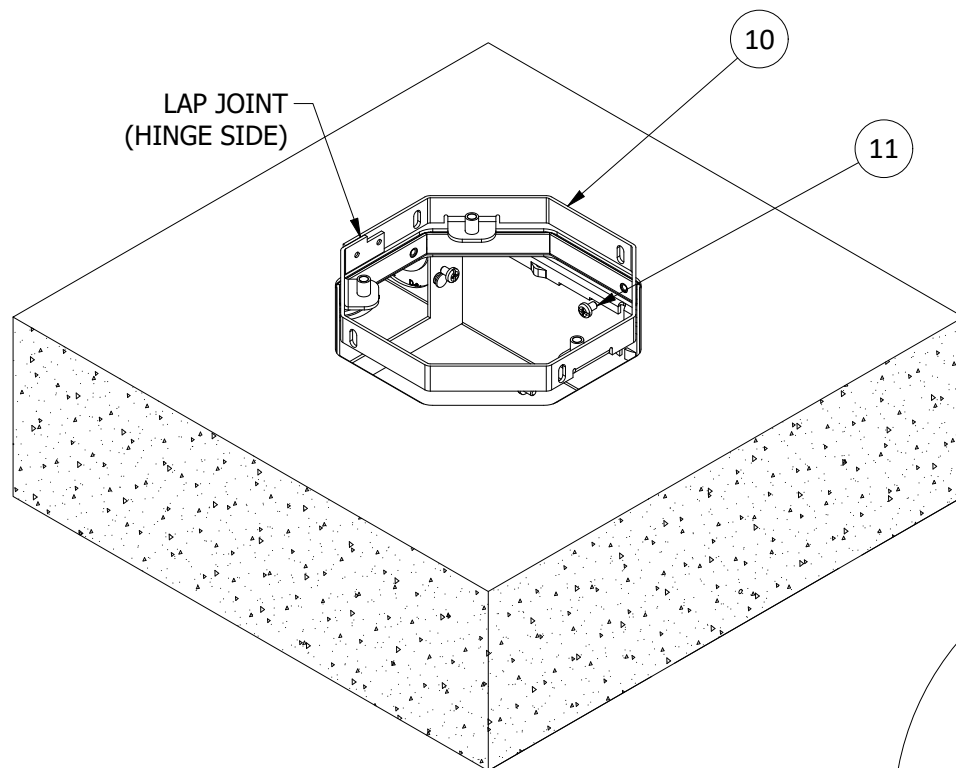

FIGURE 3
AFTER CONCRETE POUR, SEE FIGURES 3, 4, AND 5
14. Orient cover support collar [10] as required by removing and reinstalling screws [11]. Lap joint in collar defines the hinge location of the cover (SEE FIGURES 3 & 4)